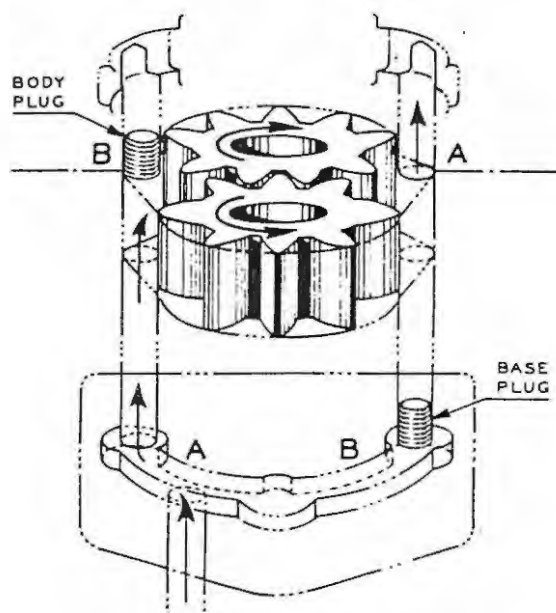

Figure 5-69. Diagram of Body and Base Oil Control Plugging
c. Oil Control Plugging. See figure 5-69. Check the governor for proper rotation by noting the location of oil control plugs in the base and the body, since the control incorporates a gear type pump, it is necessary that the oil inlet and outlet passages be on the correct sides of the pump according to the direction of pump gear rotation.